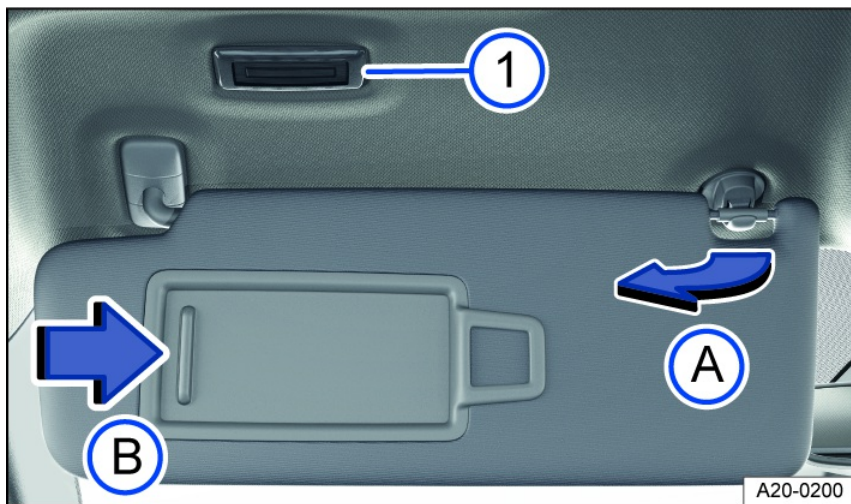

Fig. 102 In the front of the headliner: sun visor.
- Remove from the holder and tilt toward the door *fig. 102*.
When the sun visor is folded down, there is a vanity mirror located behind a cover. The lights *fig. 102* turn on when the cover *fig. 102* slides open.